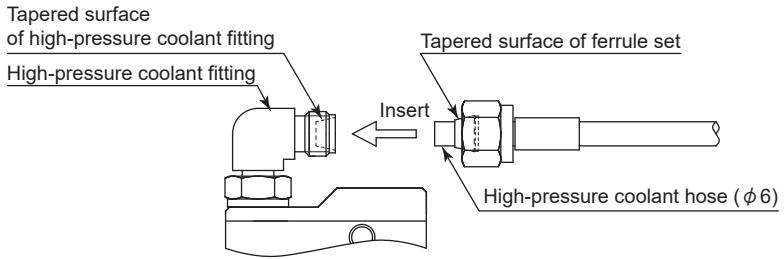

Fig. 19
- (1) Insert the high-pressure coolant hose (diameter  $\phi 6\text{mm}$ ) so that the tapered surface of the ferrule set fastened to the high-pressure coolant hose (diameter  $\phi 6\text{ mm}$ ) fits tightly against the tapered surface of the high-pressure coolant fitting. (Fig. 19)